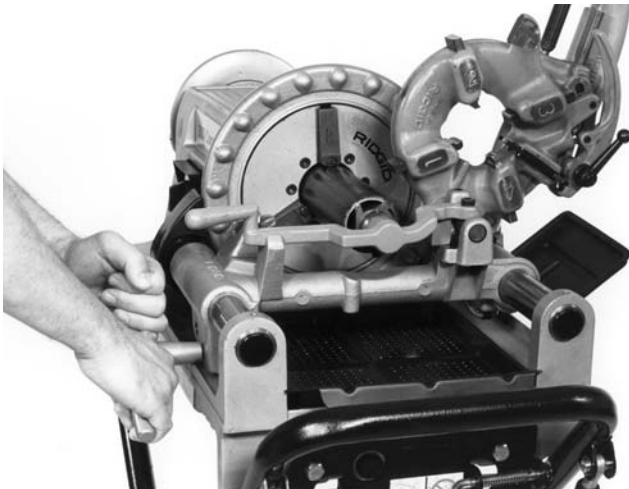

Figure 4 – Reaming Pipe With No. 344 Reamer
3. Position reamer into pipe and complete reaming by exerting pressure on handwheel (Figure 4).